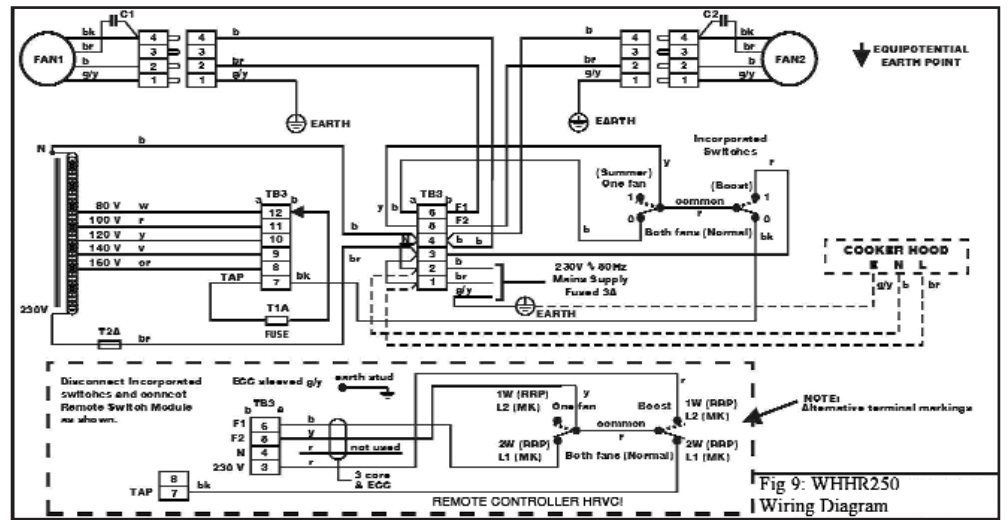

Fig 9: WHHR250 Wiring Diagram
2.9.6 Referring to Fig. 9, connect the canopy electrical cable as follows: